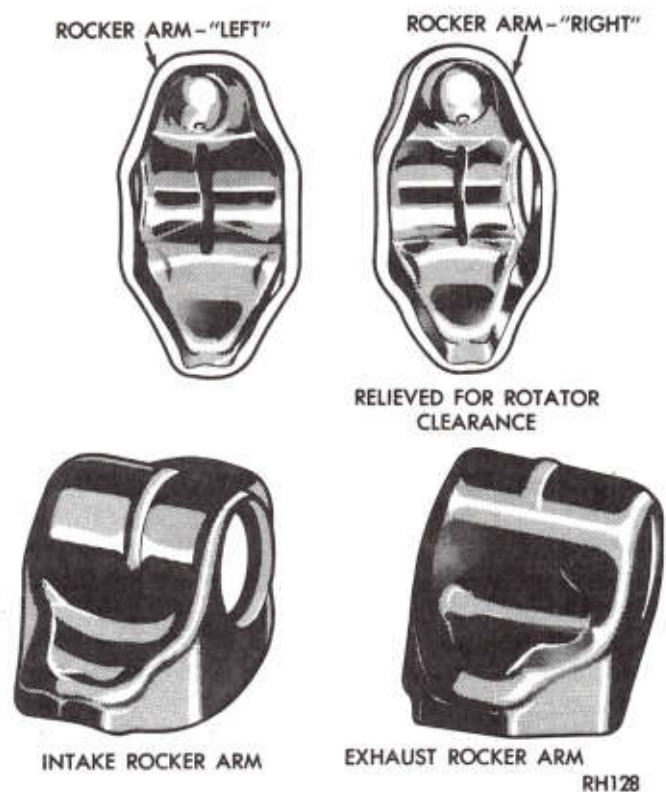
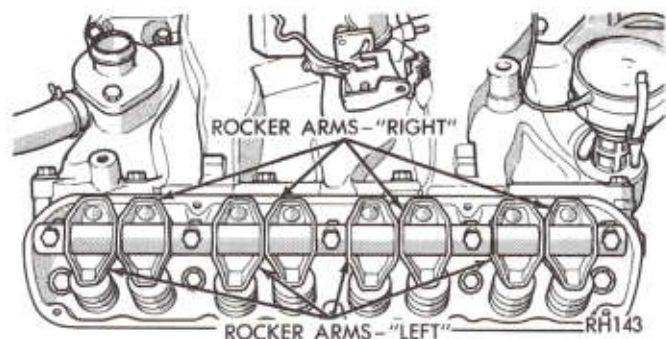

Fig. 5—Intake and Exhaust Rocker Arm Identification
Fig. 6—Proper Rocker Arm Location on Shaft
- (1) Disconnect spark plug wires by pulling on the boot straight out in line with plug.
- (2) Disconnect closed ventilation system and evaporation control system from cylinder head cover.
- (3) Remove cylinder head cover and gasket.
- (4) Remove five rocker shaft bolts and retainers.
- (5) Remove rocker arms and shaft assembly.
- (6) If rocker arm assemblies are disassembled for cleaning or replacement, refer to (Fig. 5) for rocker arm identification, and (Fig. 6) for positioning on the shaft.
- (7) On engines with exhaust valve rotators, exhaust rocker arm must have relief for clearance. Refer to (Fig. 5).
and to the rear on right bank, making sure to install the long stamped steel retainers in the number two and four positions, tighten to 200 in. lb. (23 N-m) (Fig. 6).